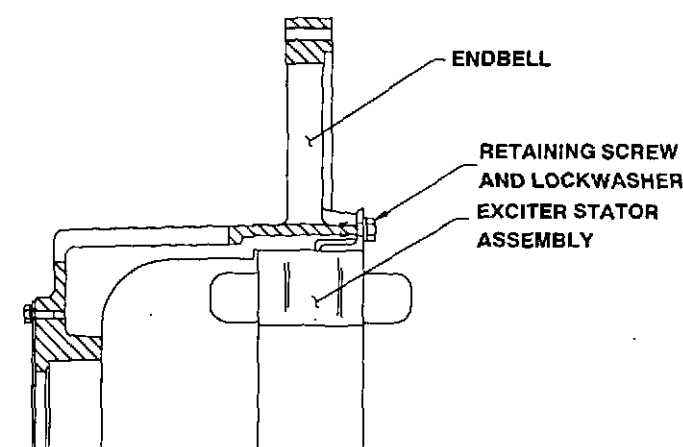

FIGURE 6-21
1. Remove the exciter stator retaining screw. (Figure 6-21.)